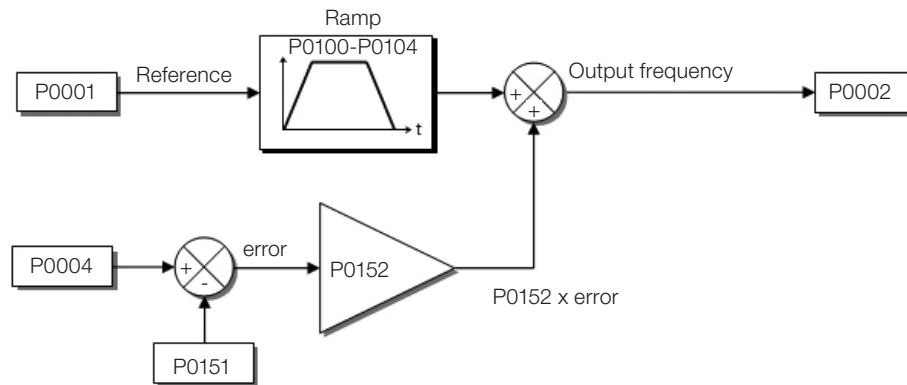
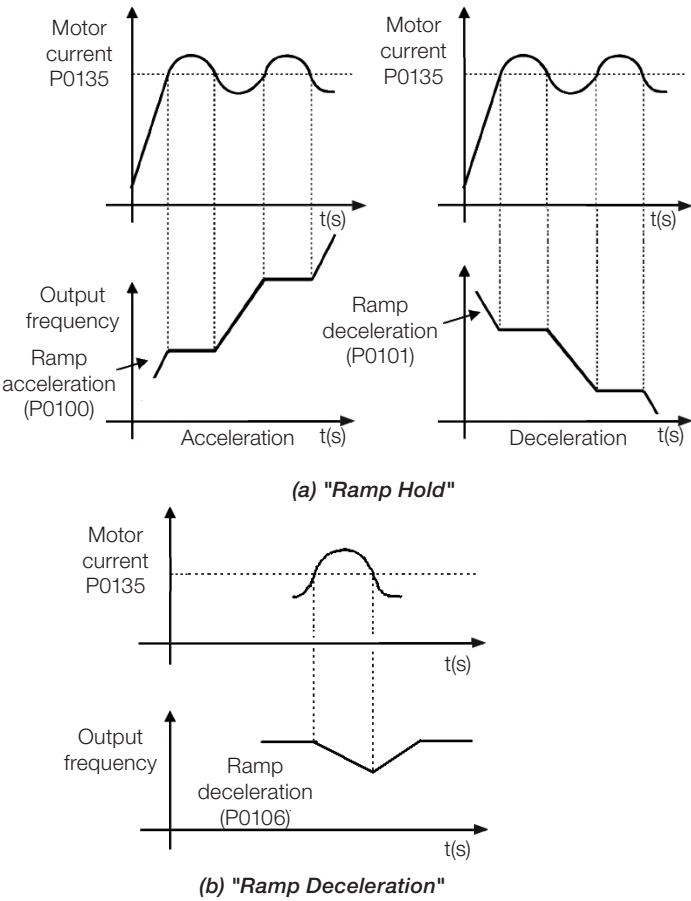

Figure 9.8: Block diagram of DC Link voltage limitation – Accelerate Ramp
Figure 9.10: (a) and (b) Actuation modes of Current Limitation via P0135
- Actuation: the DC Link voltage is measured (P0004) and compared to the value set in P0151; the difference between those signals (error) is multiplied by the proportional gain (P0152); the result is then added to the ramp output, as per Figure 9.8 on page 9-11 and Figure 9.10 on page 9-12.
- Actuation: if the motor current exceeds the value set in $P0135$ during acceleration or deceleration, the speed will not be incremented (acceleration) or decremented (deceleration). When the motor current reaches a value below $P0135$, the motor accelerates or decelerates again. Refer to Figure 9.10 on page 9-12.
- Actuation: if the motor current exceeds the value set in $P0135$, a null value is forced for the speed ramp input forcing the motor deceleration. When the motor current reaches a value below $P0135$, the motor accelerates again. Look at Figure 9.10 on page 9-12.
Current level to activate the current limitation for the Ramp Hold and Decelerate Ramp modes, as per Figure 9.10 on page 9-12, respectively.